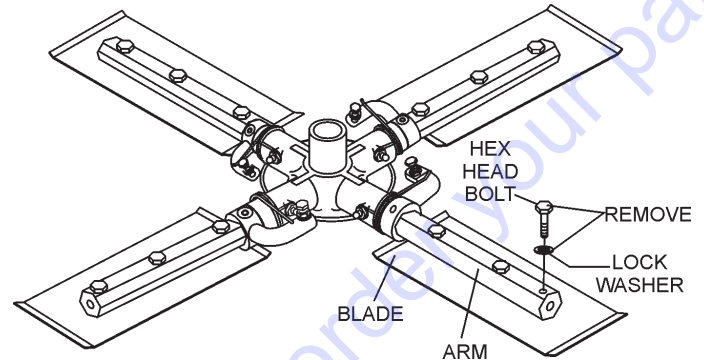

Figure 33. Trowel Blades
1. Remove the trowel blades from the trowel arm by removing the three hex head bolts (Figure 33) from the trowel arm. Set blades aside.